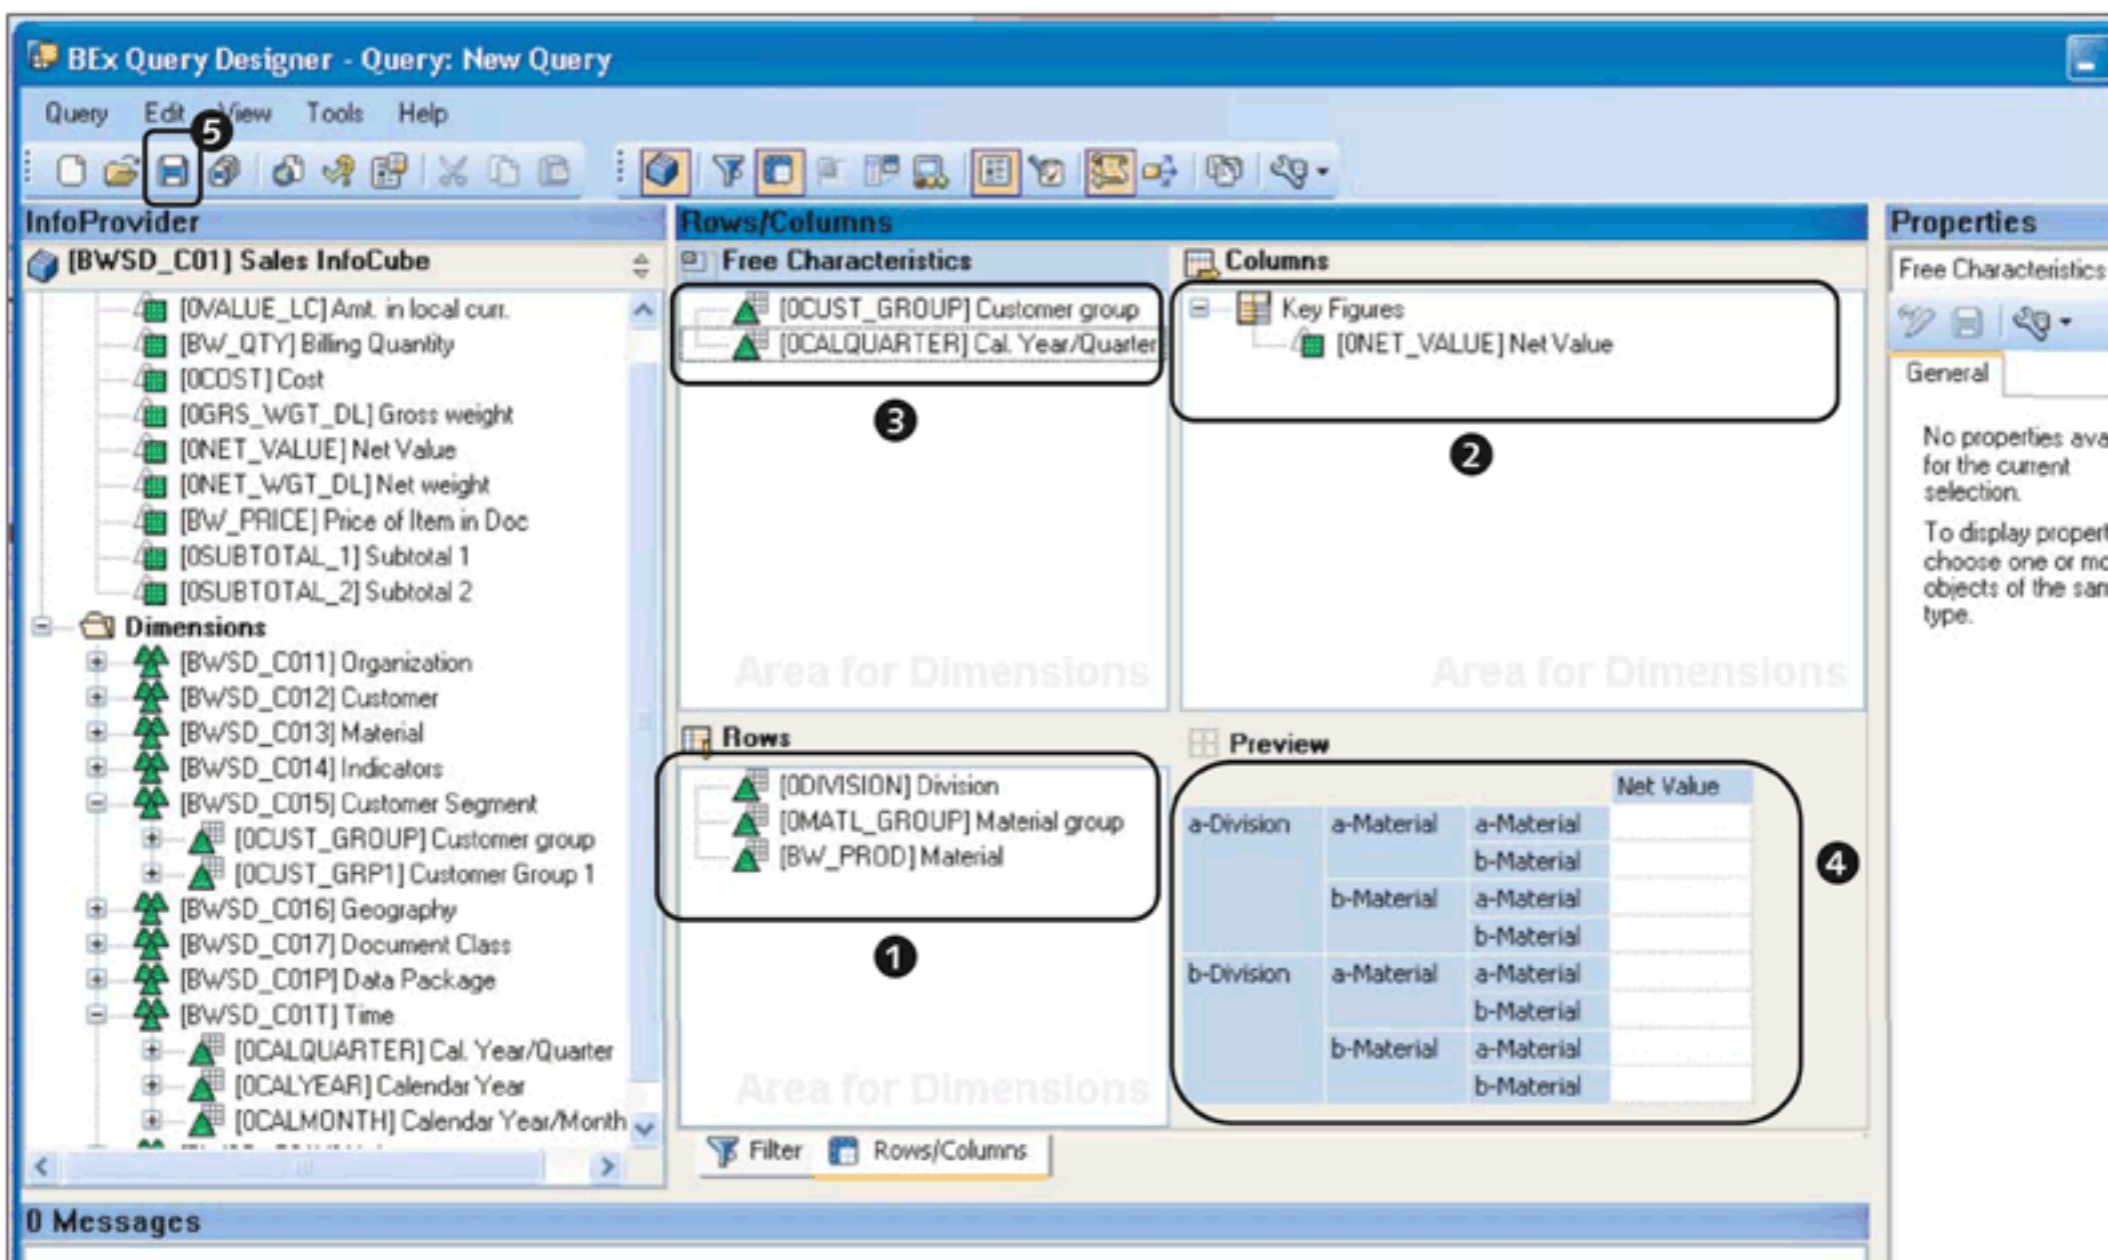

Figure 9.13 Define Rows, Columns, and Free Characteristics
Based on our example requirements, the report (the query output) should show the data by DIVISION, MATERIAL GROUP, and MATERIAL, so these characteristics should be dragged into the Rows section (❶ of Figure 9.13). The sales value should be displayed as a column, so drag the key figure NET VALUE (ONET_VALUE) to the COLUMNS area (❷).